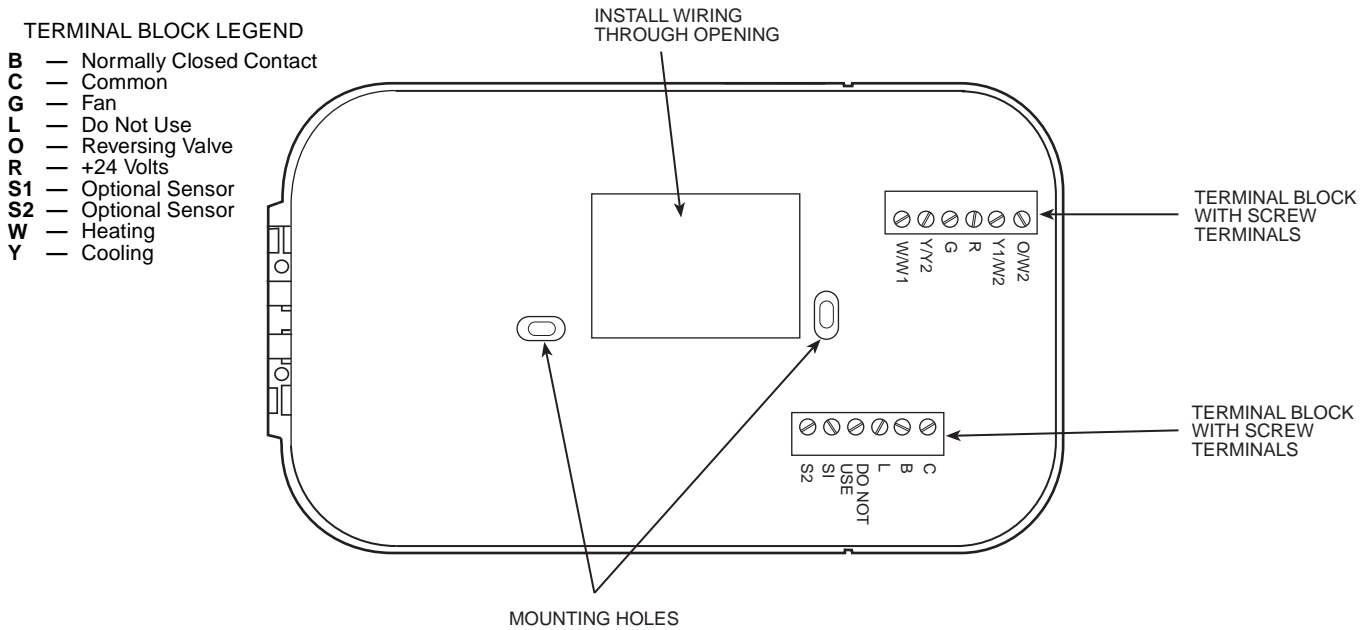

Fig. 1 — Commercial Programmable Thermostat Wiring and Installation
3. Open thermostat rear door (mounting base) to expose mounting holes. See Fig. 1.